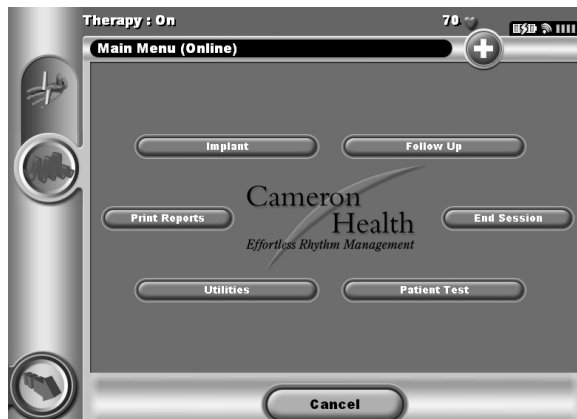

Figure 34: Select the Patient Test button to access the Manual Shock Test screen
2. Select the Patient Test button (Figure 34) to display the Manual Shock Test screen.